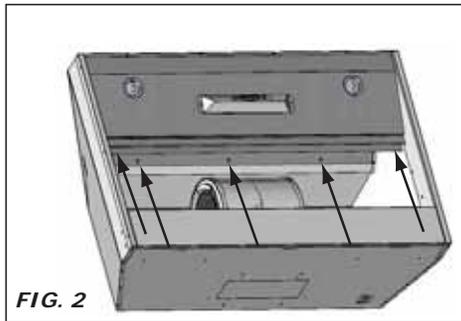

FIG. 2
- PC board is located inside the hood body behind the light panel. Unscrew (5) light panel screws to gain access to the PC board. FIG. 2